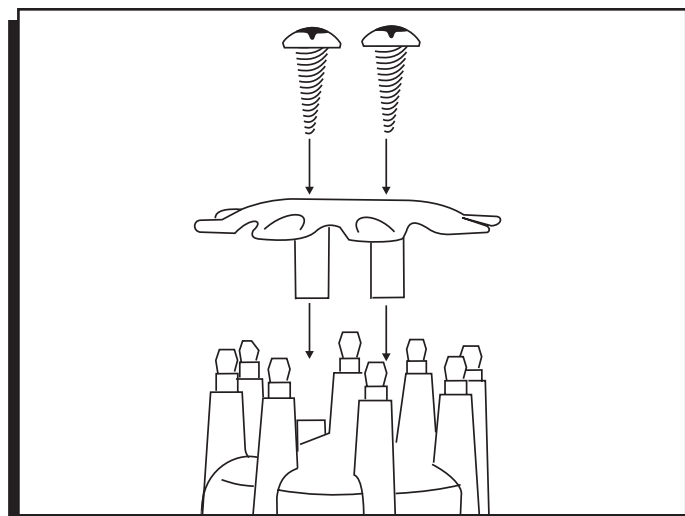

Figure 11 Installing the Wire Retainer
10. Install the distributor cap and spark plug wires one at a time to ensure correct location. A wire retainer is supplied to secure the wires in place. Align the mounting bosses and use the supplied 1.5" self-tapping Phillips screws to hold the retainer in place (Figure 11).